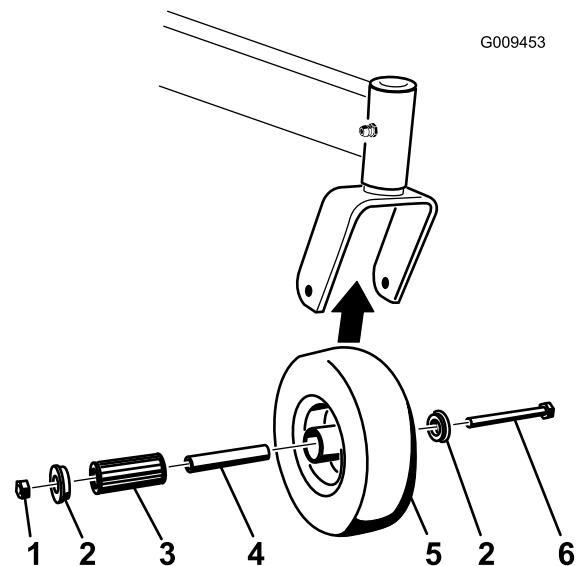

Figure 61
1. Remove the locknut and wheel bolt holding the caster wheel to the caster fork (Figure 61).
2. Remove one bushing, then pull the spanner bushing and roller bearing out of the wheel hub (Figure 61).
3. Remove the other bushing from the wheel hub and clean any grease and dirt from the wheel hub (Figure 61).
4. Inspect the roller bearing, bushings, spanner bushing and inside of the wheel hub for wear. Replace any defective or worn parts (Figure 61).
5. To assemble, place one bushing into the wheel hub. Grease the roller bearing and spanner bushing and slide them into the wheel hub. Place the second bushing into the wheel hub (Figure 61).
6. Install the caster wheel into the caster fork and secure with the wheel bolt and locknut. Tighten the locknut until the spanner bushing bottoms against the inside of the caster forks (Figure 61).